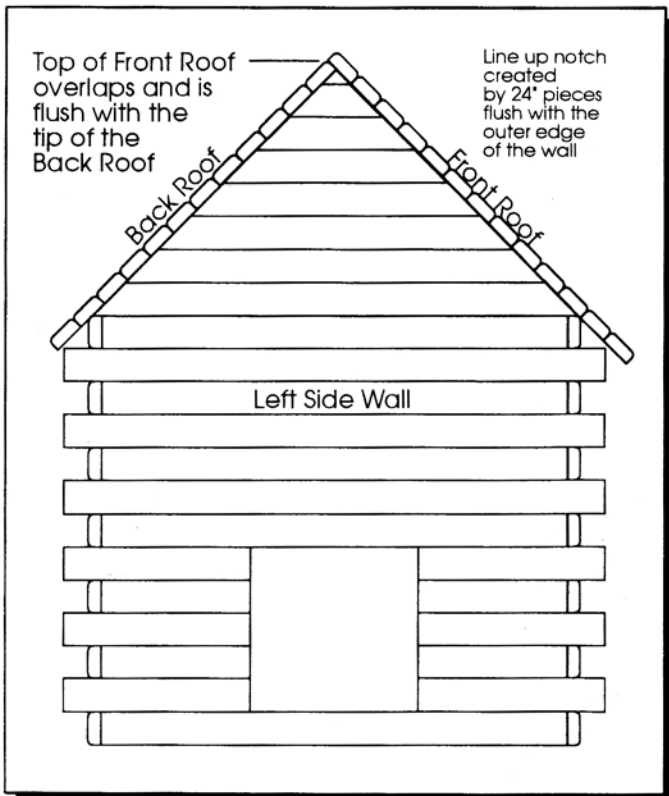

Figure 21- Front Roof to Walls
a. Glue the Front Roof assembly to the front of the Left and Right Side Walls and the top of the Front Walls so that the top edge of the Front Roof overlaps and is flush with the top rounded edge of the Back Roof. Again, the notch in the roof will align with the outside of the Left Side Wall. (This overlap method is recommended to give the roof a sharp peak, even though the bottoms of the roofs are not even. This discrepancy will be covered by the trim pieces glued to the front edge of the roofs. If this bothers you, then align the roofs evenly and fill the valley created with a square strip of wood that you manufacture that is the same thickness as the roof pieces which are slightly thicker than 5/16"). See Figure 21.